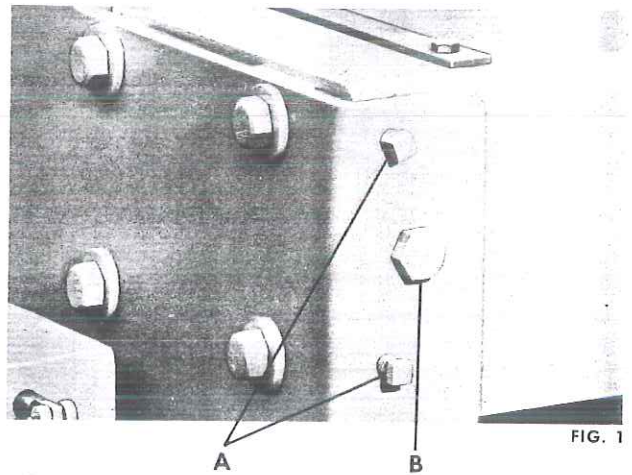

FIG. 1
To adjust the bed, slack off but do not loosen the nuts or bolts at each end that attach and clamp the bed to the legs. There are four nuts on the outside of each leg. Referring to Figs. 1 and 2, screws (A) move bed in to reduce knife clearance and screw (B) move bed out to increase knife clearance.